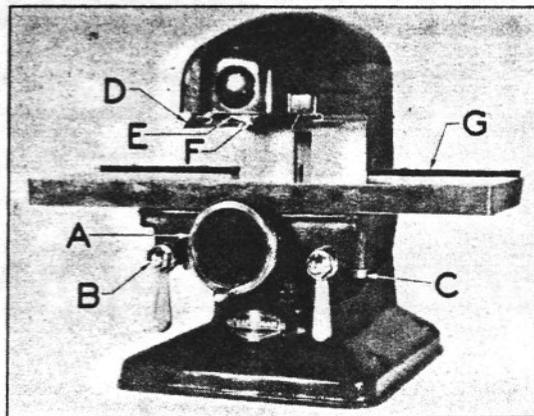

Fig. 3
The hand wheel (A) in Figure 3 operates the lift screw which raises or lowers the table of the thickness planer to any position desired by the operator. One revolution of the wheel raises or lowers the table $\frac{1}{16}$ inches.
The table on this planer may be tilted to align it parallel to the cutter head. To make this adjustment loosen the bolts (C in Fig. 3) which lock the table to the sub table. Lower the table. Using a block having parallel sides slide this piece as a gage between the table and the cutter head (not a blade). With the cutter head resting full length on the gage retighten the bolts.